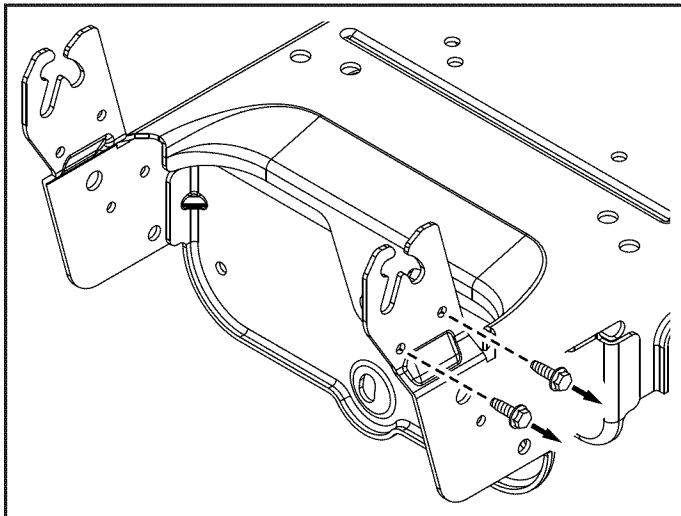

FIGURE 1
STEP 2: (SEE FIGURE 1)
STEP 12: (SEE FIGURE 1)